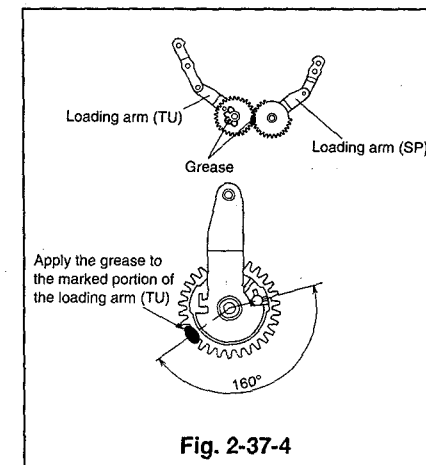

Fig. 2-37-4
- 3 Apply grease (G)[859D055O50] to the area that touches the cogwheel of the loading arm (TU) when the loading arms (SP and TU) are shifted fully to the loading direction. Apply grease (G)[859D055O50] to the gear portion that meshes with the plate cam B. (Refer to Fig. 2-37-4.)